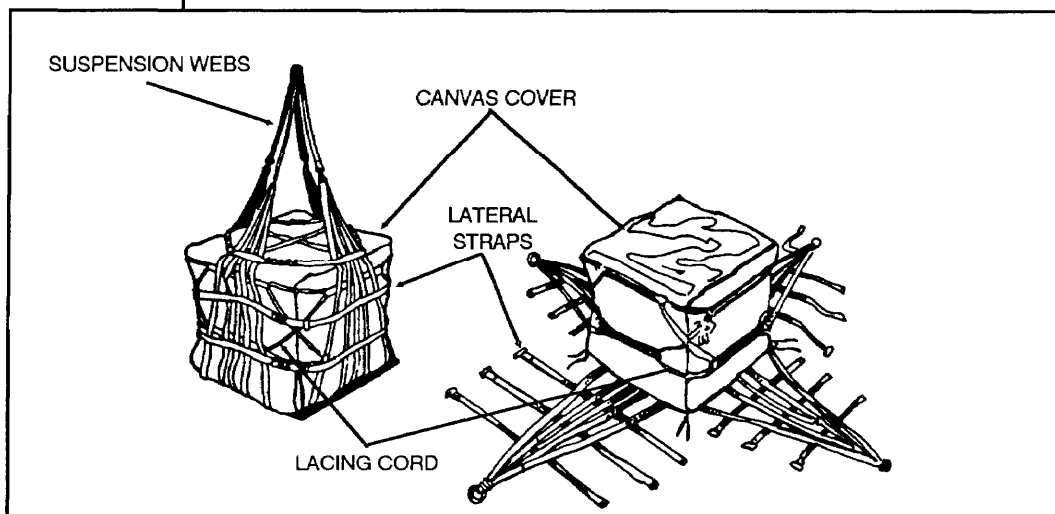

Figure I-4. Parts of the A-22 cargo bag.
c. **A-22 Cargo Bag.** An A-22 cargo bag is used to transport any standard palletized load or loose cargo up to 2,200 pounds (Figure I-4). A-22 cargo bags can be rigged in multiples for moving large amounts of ammunition. The CH-47D can lift about 10 to 12 pallet-loaded A-22 cargo